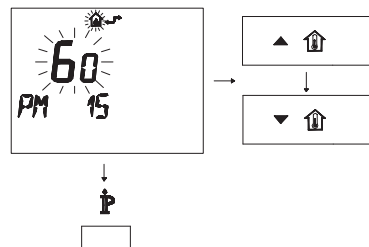

Fig. 7.14
- Modify the programmed SET by acting on buttons **▲** or **▼** until a **setting of 60** is displayed, wait for the number programmed to flash (Fig. 7.14).